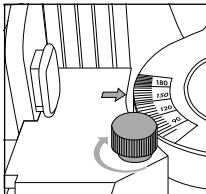

Fig. 5
- ◆ Tighten the retaining nut **6**. The arrows on the movable arms **1** point to the scale where you can read off the measured angle (see fig. 5).